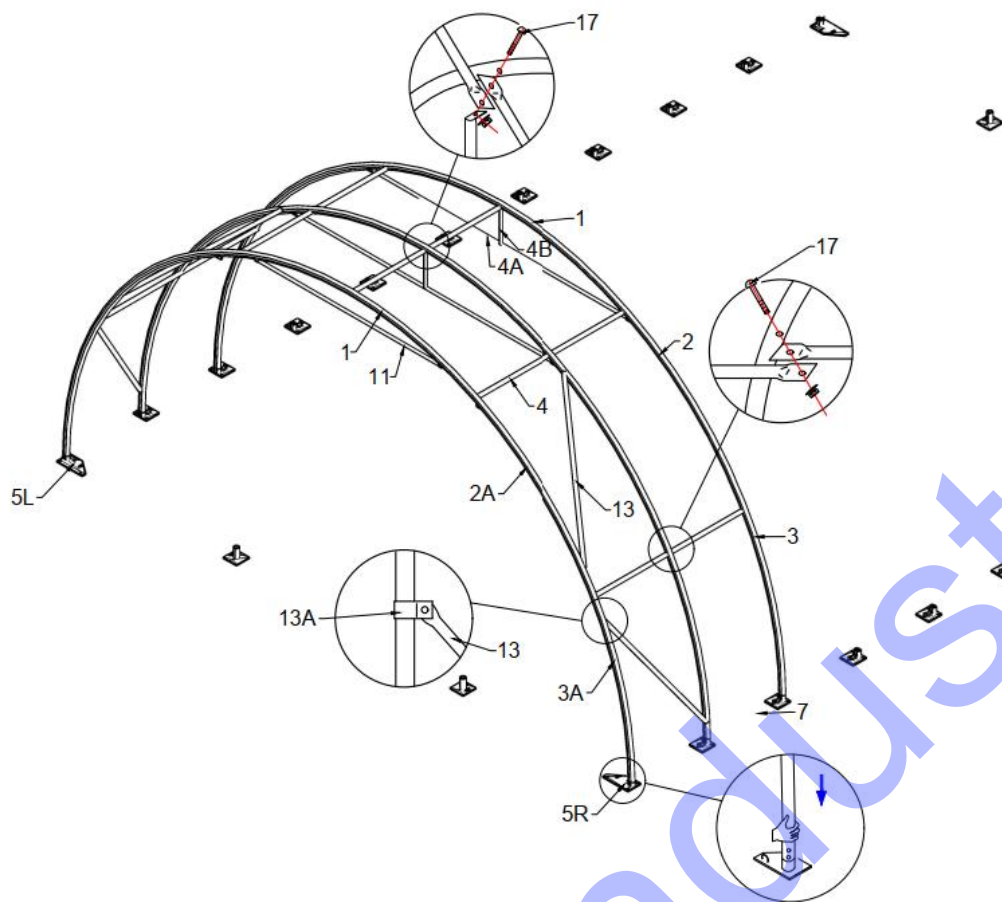

Figure 5
2. Connect the Diagonal Bracing Tube (No.13) with clip (No.13A) between the Lower Bent Tubes as figure 5.